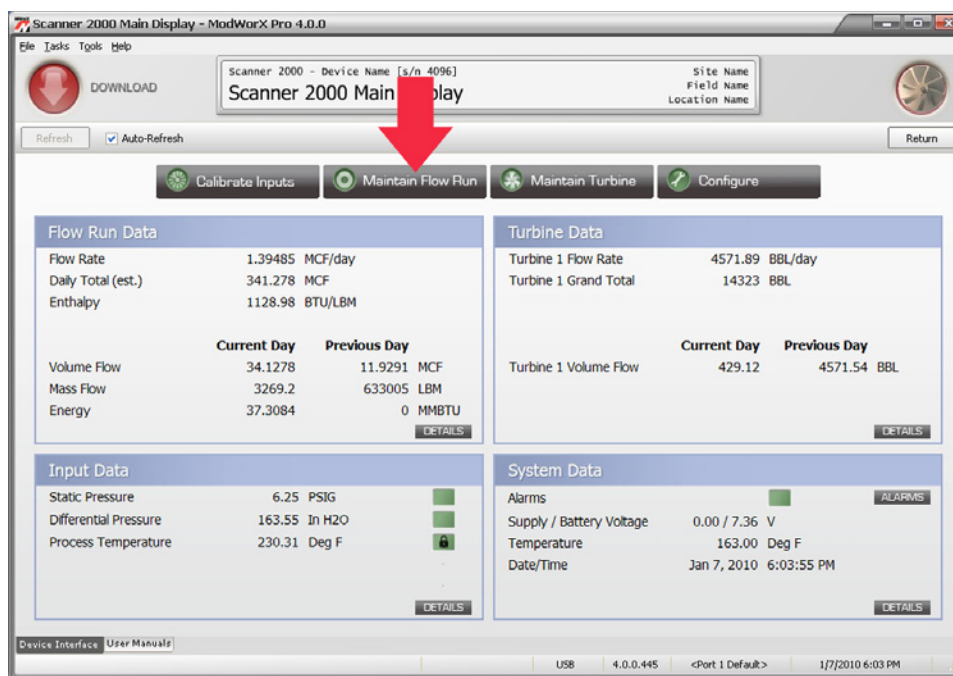

Figure 9.1
1. Click on the **Maintain Flow Run** button in the task menu bar on the Main Display screen (Figure 9.1, page 124).